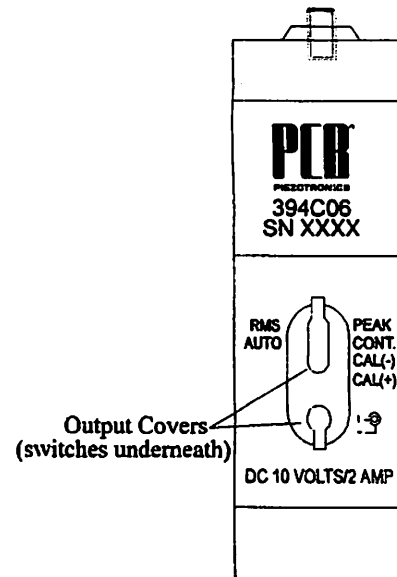

Figure 4. Handheld Shaker Calibration Check Points
The Model 394C06 permits accurate adjustment of measuring instrumentation to indicate a standard acceleration level of 1g RMS or 1 g peak, adjusting the system for correct measurement. The reference signal may also be used for velocity and displacement, at 10 mm s^{-1} RMS or 10 mm s^{-1} peak and 10 μm RMS or 10 μm peak-to-peak, respectively. To change between RMS and peak, depress the corresponding side of the rocker switch in the options cavity of the shaker. For example, to choose RMS, depress the left side of the rocker switch (see Figure 4).
life of the batteries, the Model 394A06 automatically switches off after 90 seconds. With new batteries, 80 sensitivity checks with maximum load are possible. To change between auto shutoff and continuous run, depress the corresponding side of the rocker switch in the options cavity of the shaker. For example to choose auto shutoff, depress the left side of the rocker switch (see Figure 4).
- Calibration check points. Calibration of the internal feedback circuit can be verified via test points (located in the options access pocket). See Figure 4.